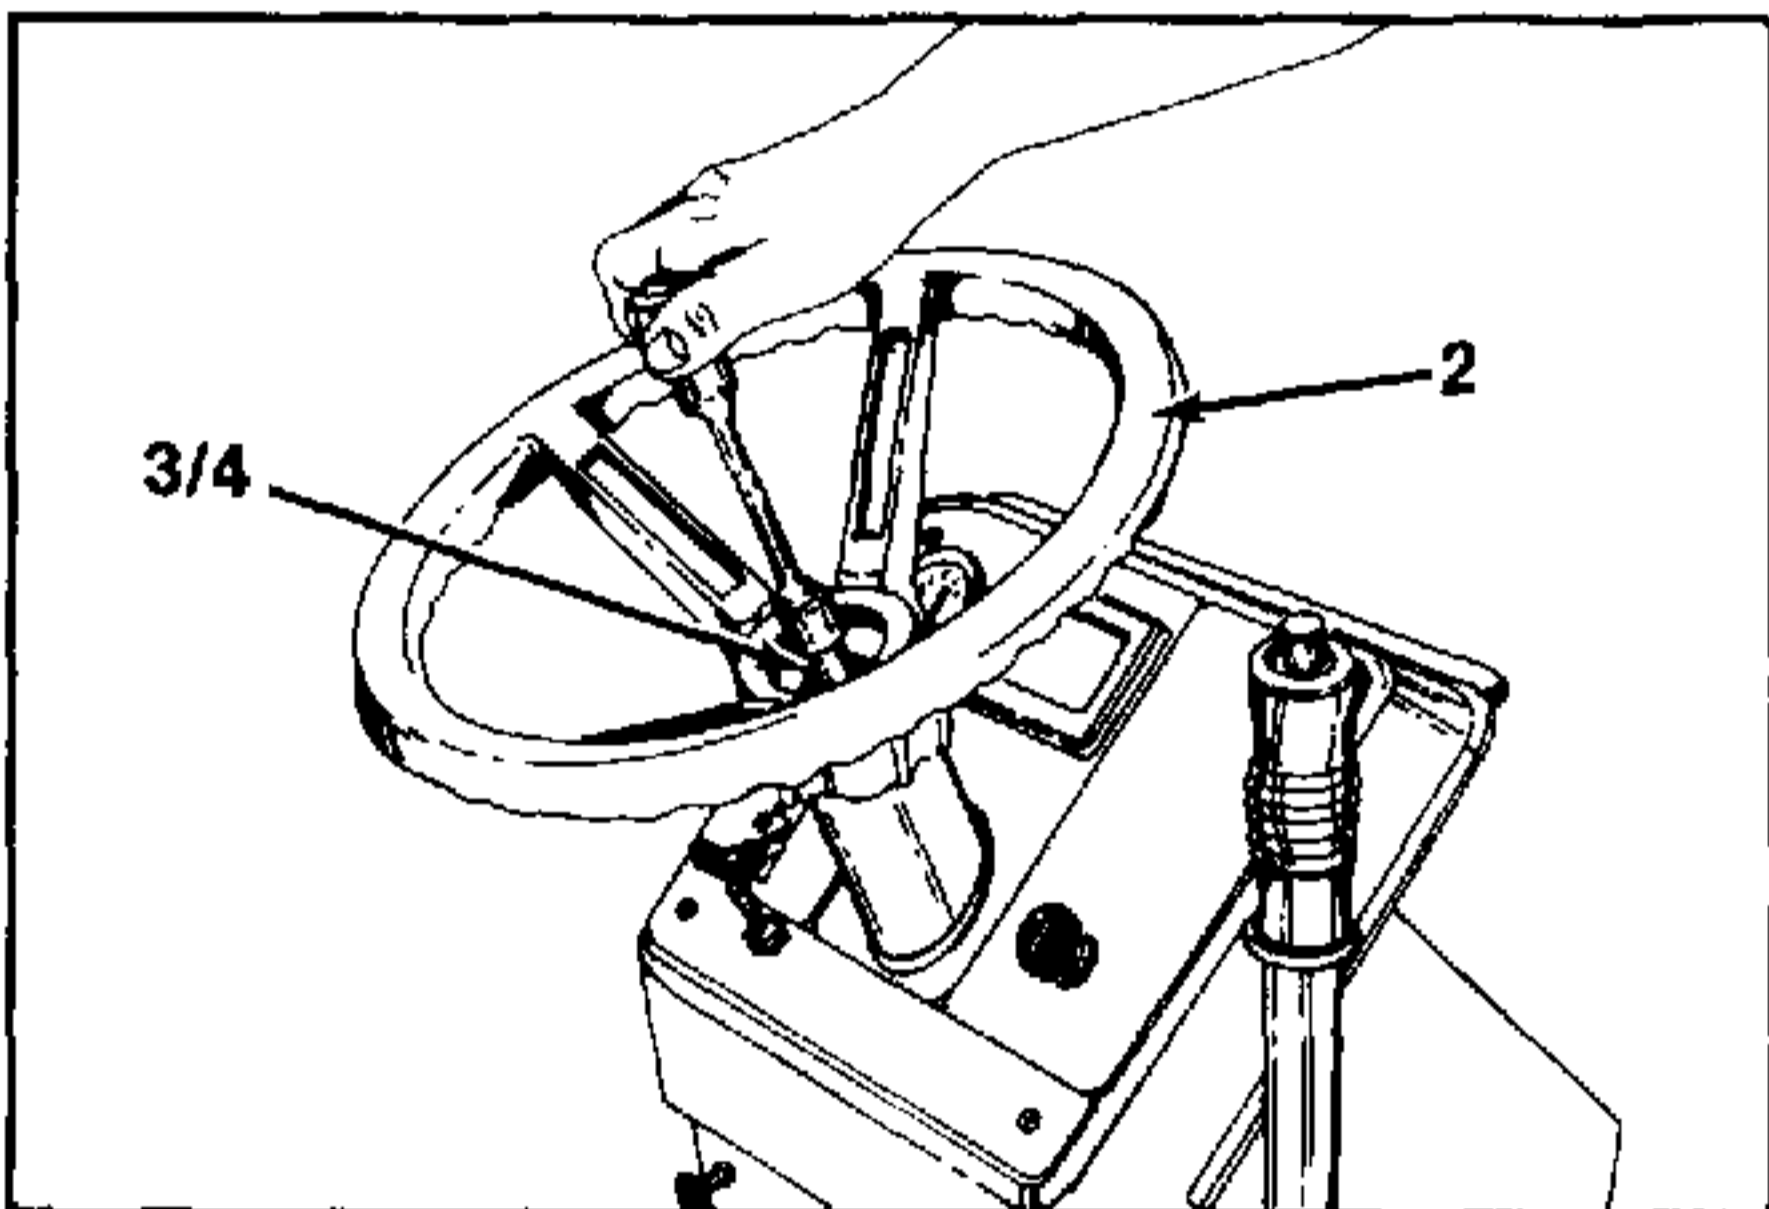

FIGURE 2.
2. Remove the steering wheel by removing the hex lock nut (Ref. 3) and belleville washer (Ref. 4). See figure 2. Pull and tap steering wheel upwards to remove. A hammer may be required.